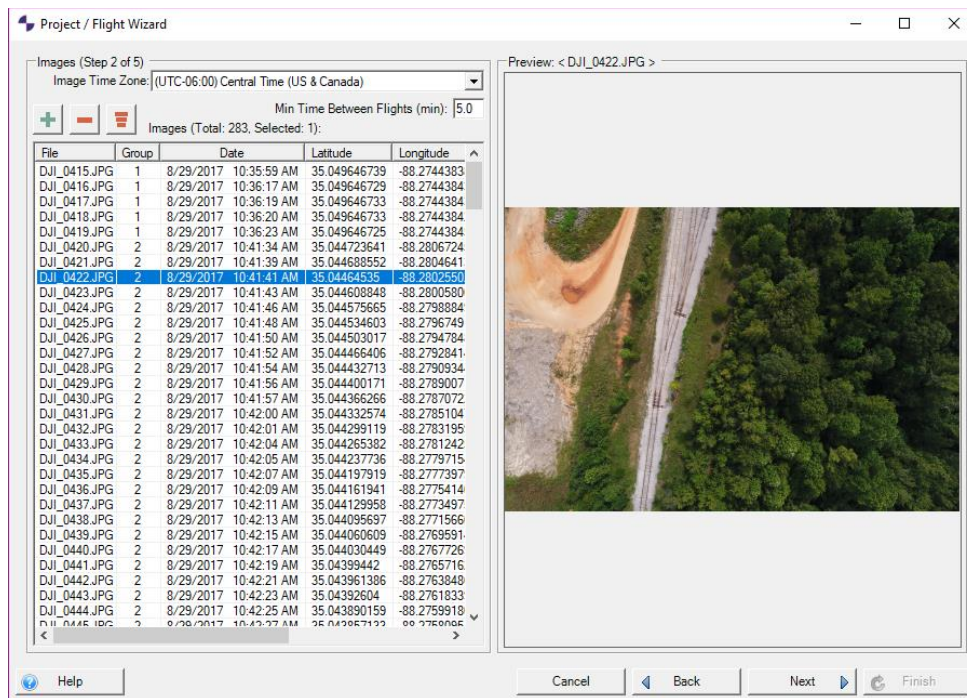

Figure 10 - Photo Preview
- The photos should now be visible in the dialog. If a photo is selected, you can preview the photo in the *Preview* window (Figure 10).